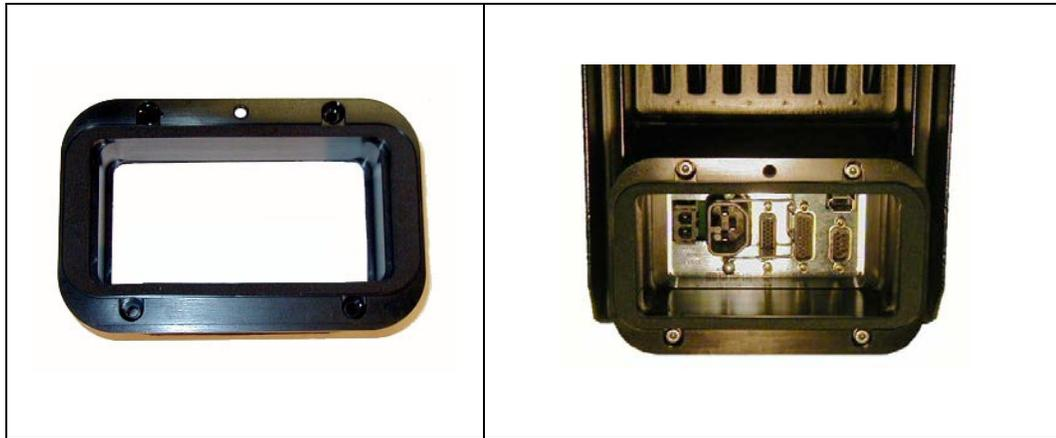

Figure 10-1. Cable Seal Housing (left), Installed (right)
- AIB/eAIB Cable Seal Housing, 2 gaskets, 4 screws (Figure 10-1)